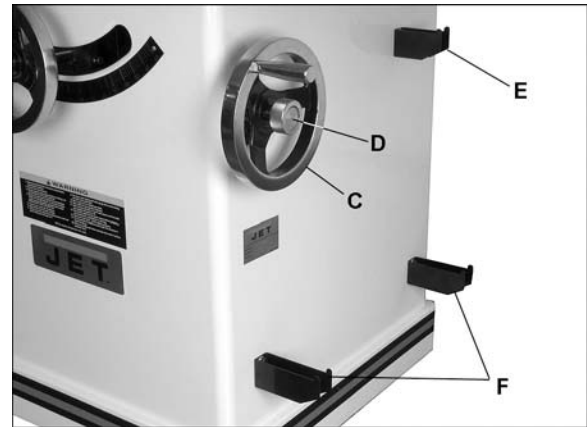

Figure 7
2. Line up key on shaft with keyway in handwheel and slide handwheel (C, Figure 7) onto shaft.
4. Insert lock knob (D, Figure 7) into center hole in shaft and rotate in clockwise direction.
Install small hook (E, Figure 7) in upper hole for miter gauge storage. The larger hooks (F, Figure 7) are installed in the lower holes for fence storage.